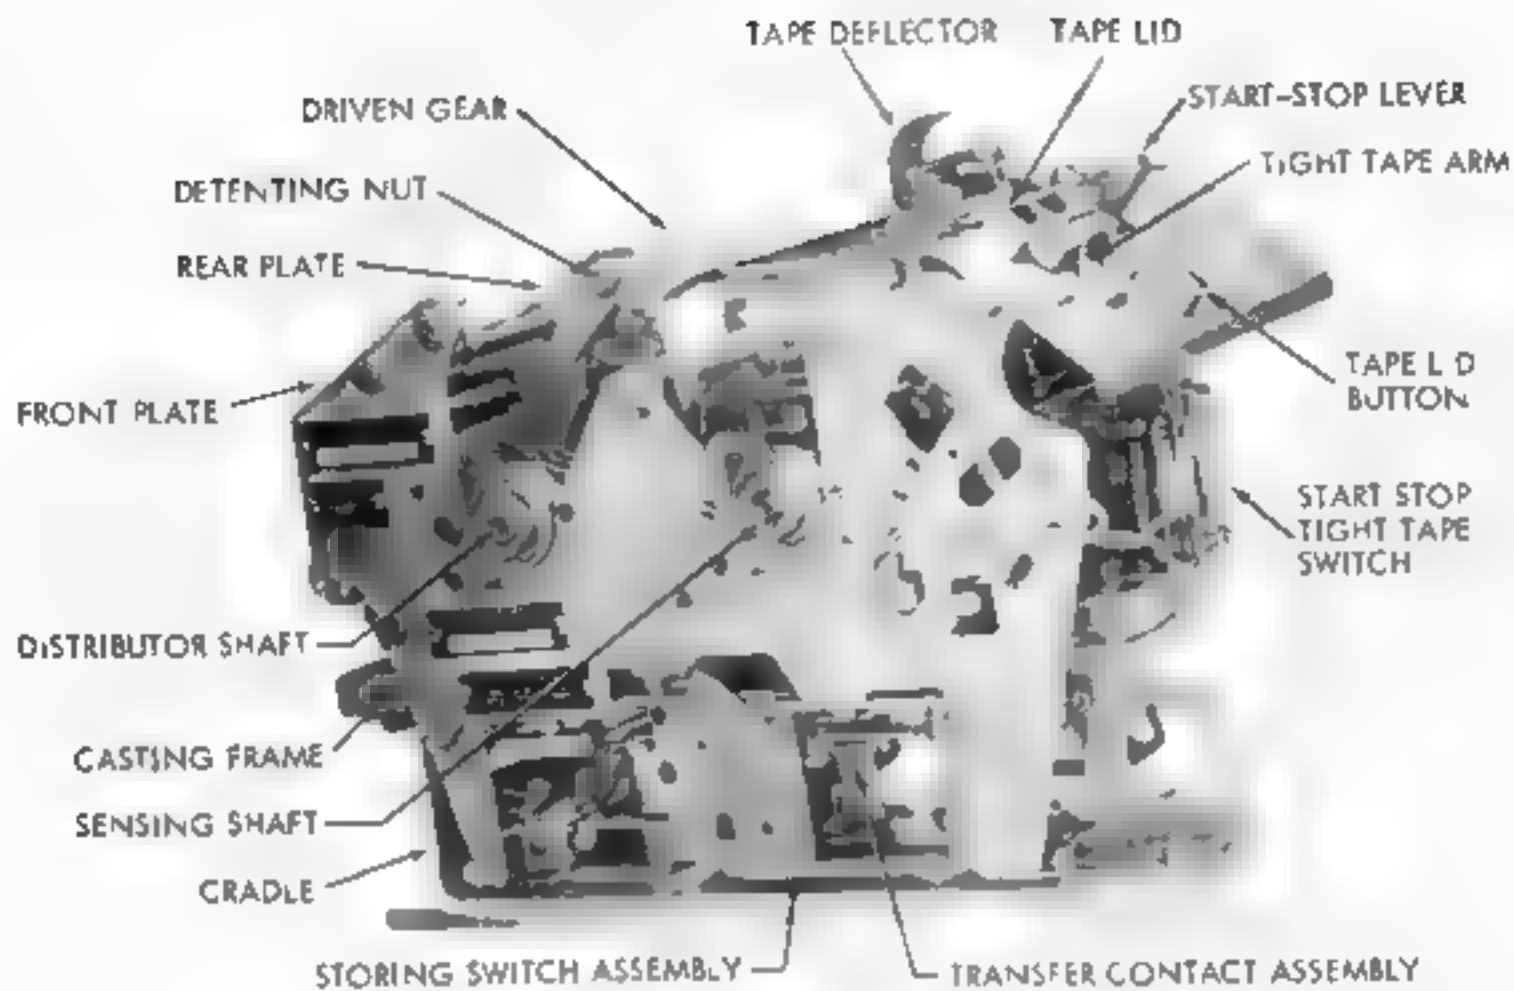

FIGURE 4-1. TRANSMITTER DISTRIBUTOR (LBXD) - FRONT VIEW
2. DISASSEMBLY AND REASSEMBLY OF (LBXD) TRANSMITTER DISTRIBUTOR (Refer to Figures 4-1 and 4-2)